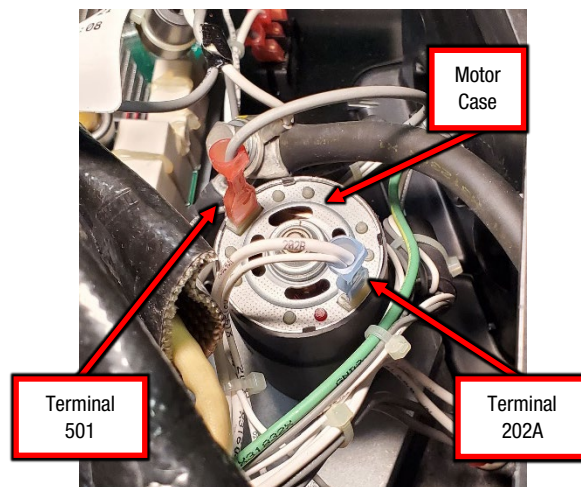

Figure F.3
A.3. Perform the static measurements in Test Table 1, refer to Figure F.3 for test point locations. NOTE: MEASUREMENTS ARE MADE ON THE TERMINALS WITH THE LEADS REMOVED.